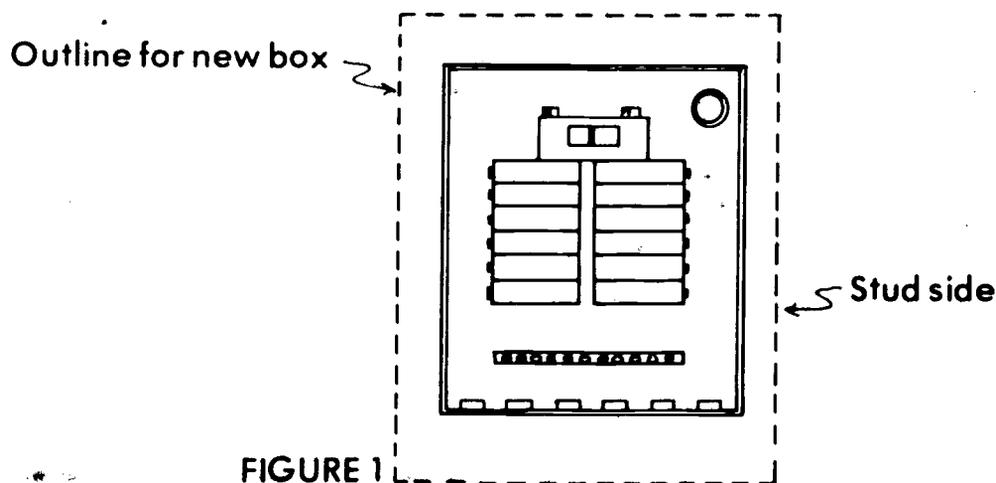

FIGURE 1
2. Draw around load center once it is in place (Figure 1)